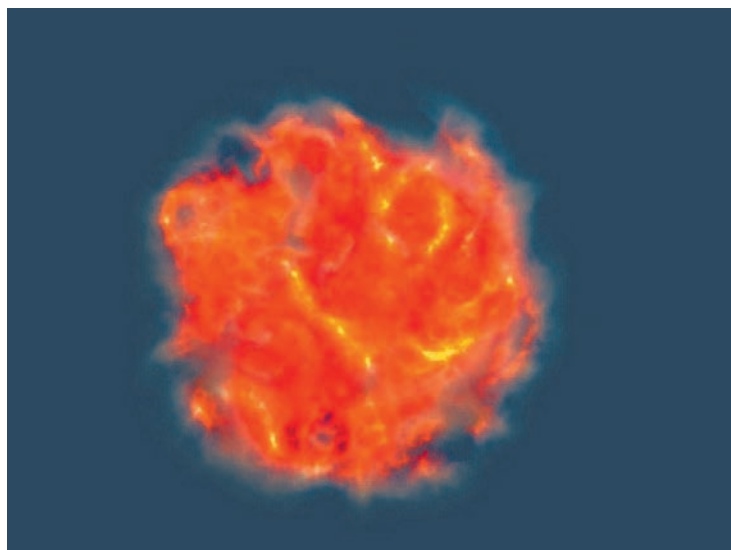
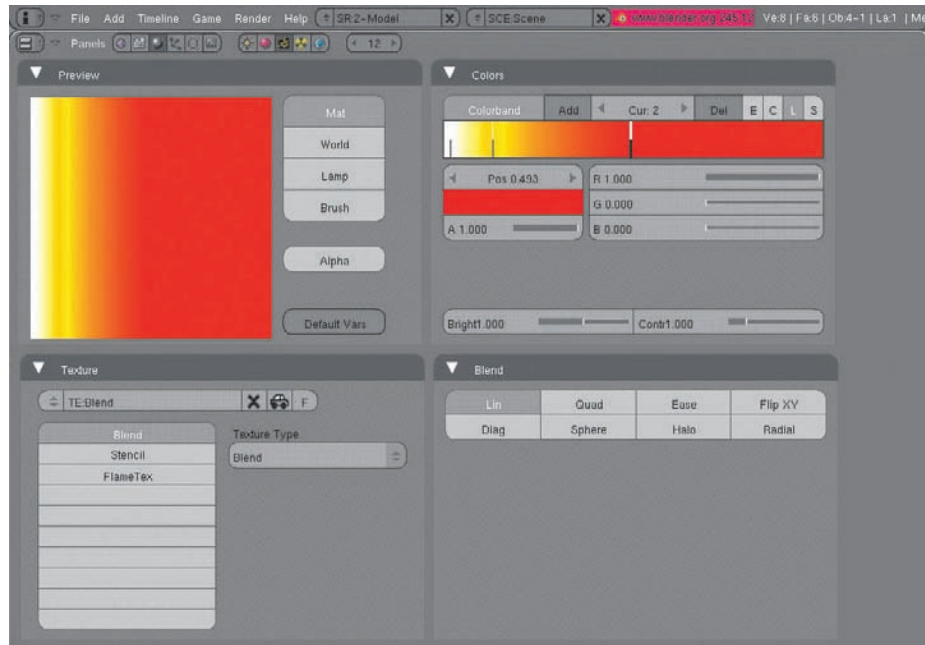
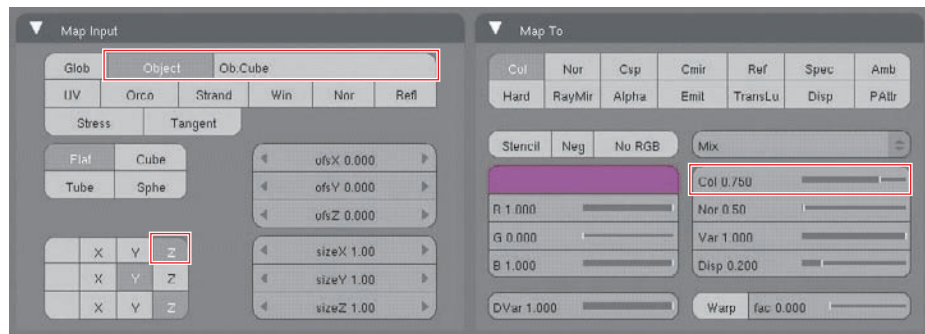

Figure 2.38 The material so far
Figure 2.39 Stencil texture mapping
Figure 2.40 Stencil texture mapping
9. If you render now, the result looks like Figure 2.38. This is an improvement, but it's not finished yet. For one thing, there's that hazy dim glow where many low-alpha values are adding up to become a rather dull color. To counter this, add one more blend texture in the topmost channel of the material's texture channels. Make the texture look as shown in Figure 2.39, with a Lin (linear) blend type and white, yellow, and red-orange colors. In the Materials buttons, map the texture as shown in Figure 2.40. In Map Input, select Object, type **Cube** into the field, and set the topmost mapping axis to Z rather than the default X. In Map, set the Col value to 0.75.